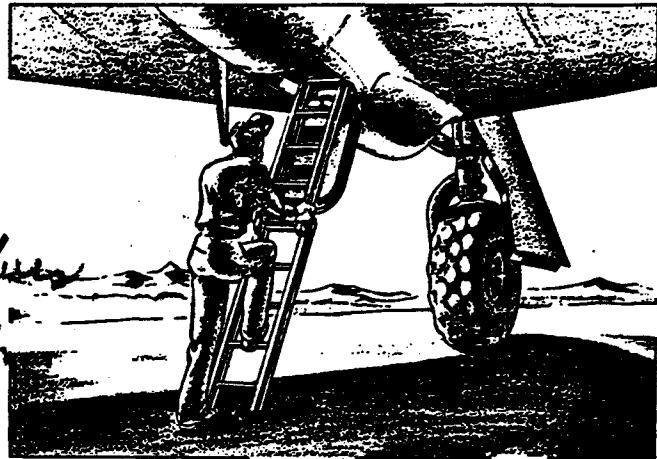

Figure 1. Entrance
56. **ESCAPE HATCHES.** (See Section IV, figure 1.)
(1) See that the airplane is headed into the wind.	(1) Check all seams for apparent fluid leaks	(1) See that the engine sections have been inspected.
(2) Check the condition of the tires and shock struts. See that the wheels are chocked.	(2) See that the wings are free of ice, snow, frost, oil or heavy accumulations of dust.	(2) Check for servicing-fuel tanks, oil tanks, hydraulic reservoirs, landing gear bungees, and nose gear steering and brake accumulator.
(3) See that ground crew personnel are stationed at the nose gear with earphones and microphones plugged in.	(3) Check control surfaces for damaged skin or fabric.	(3) See that all dust covers have been removed.
(4) See that the ground crew has an extinguisher with a special nozzle connected to No. 1 engine blower section connection. (See paragraph 50, Section I.)
d. **ENTRANCE TO THE AIRPLANE.** (See figure 1.)- The main entrance hatch is located in the bottom center of the crew nacelle. Turn the handle at the center of the door to the right and lower the door, then place the ladder against the door.